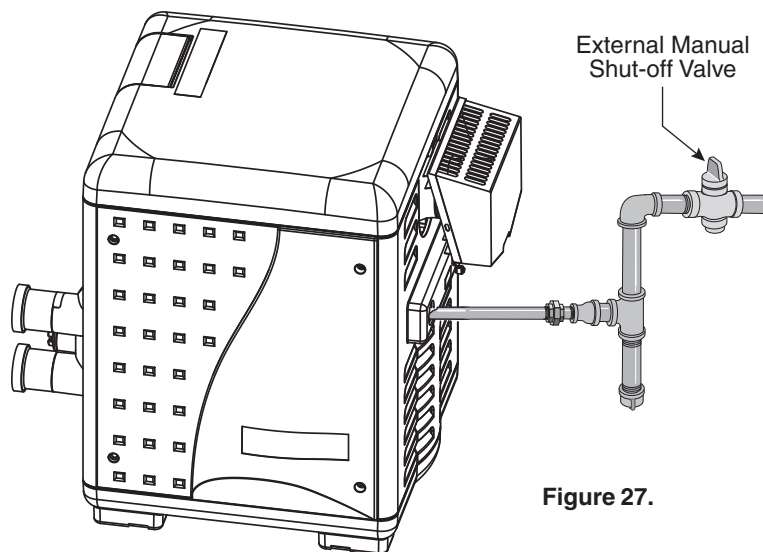

Figure 27.
5. Turn **off** the outside external manual shut-off gas valve, see Figure 27.
6. Wait five (5) minutes to clear out any gas. If you then smell gas, **STOP!** Follow “B” in the “Before Start-up” instructions (page 30). If you don’t smell gas, go to the next step.
7. Turn **on** the outside external manual shut-off gas valve, see Figure 27.
3. Turn **off** the outside external manual shut-off gas valve, see Figure 27.